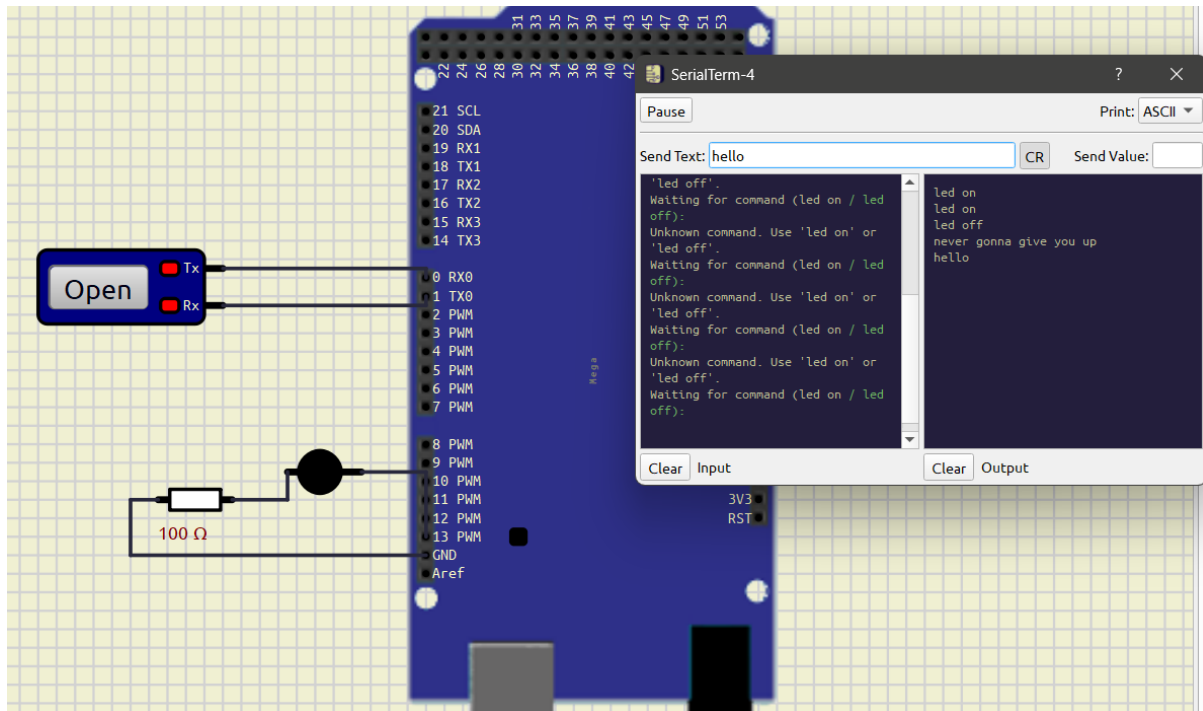

Figure 11: Serial monitor showing invalid command message
6. Figure 11 presents the serial monitor displaying an invalid command message when an unrecognized command is entered.